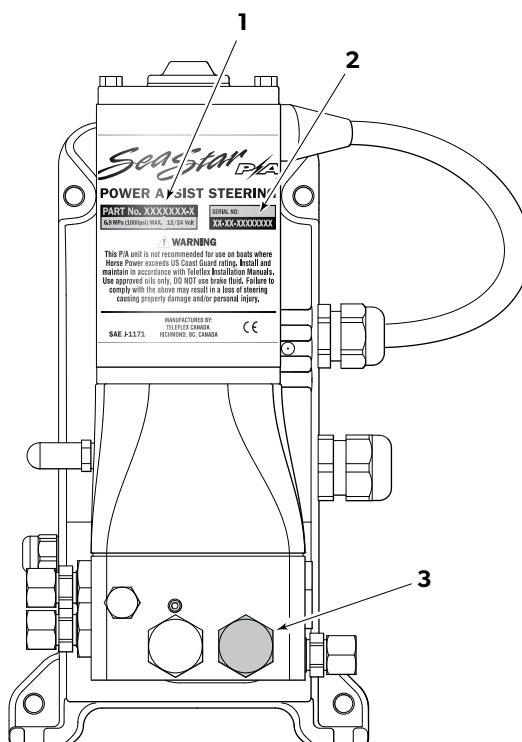

Figure 9-1.
1. Inspect the colored cap (shown in figure 9-1 item 3).
- b. If black, proceed to item 2 below.
2. Inspect Part No./Serial No. (shown in figure 9-1 item 1 and item 2).